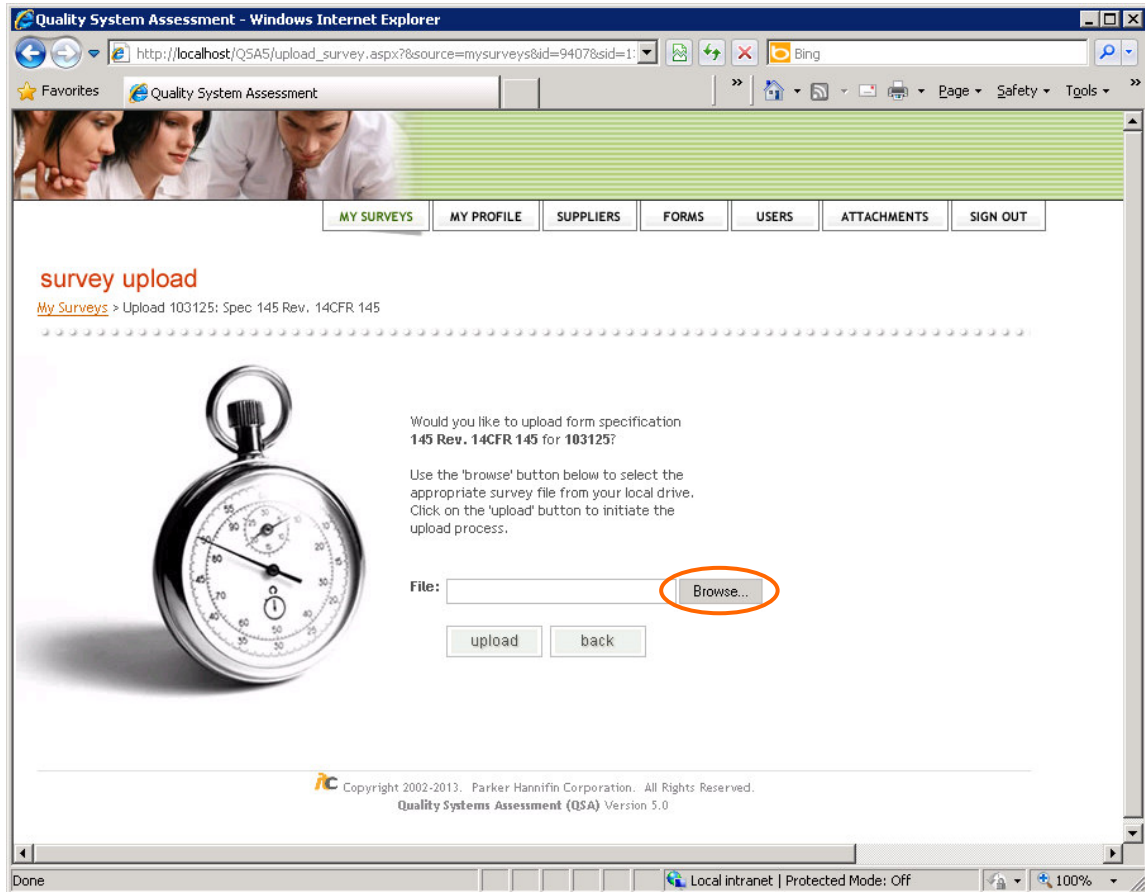

Figure 24 – Upload Survey
- On the “survey upload” page (figure 24), click on the “browse” button.